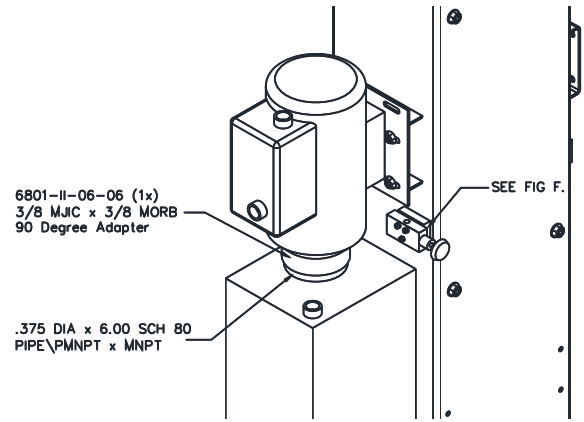

Fig 10 – Air Button & Power Unit Mounting
- 23) Install the power unit and the air button valve assembly on the power column, **Fig 10**.